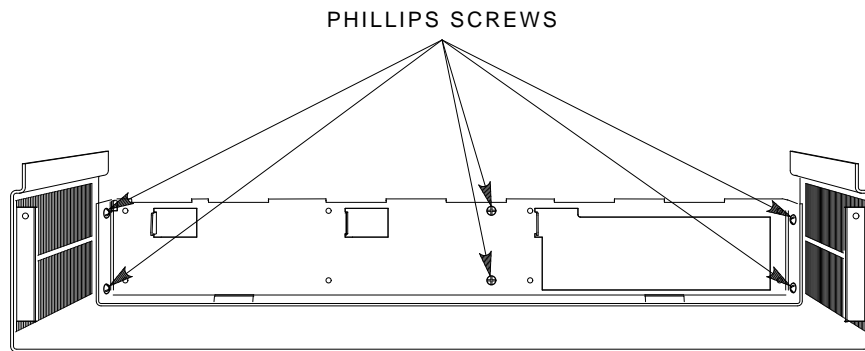

Figure 1-19 Removing Front Bezel screws
1. On the cover of the system box, remove the six screws (Figure 1-19) and remove the front bezel from the cover.
4. Install the front bezel onto the cover and install the six screws (Figure 1-19).